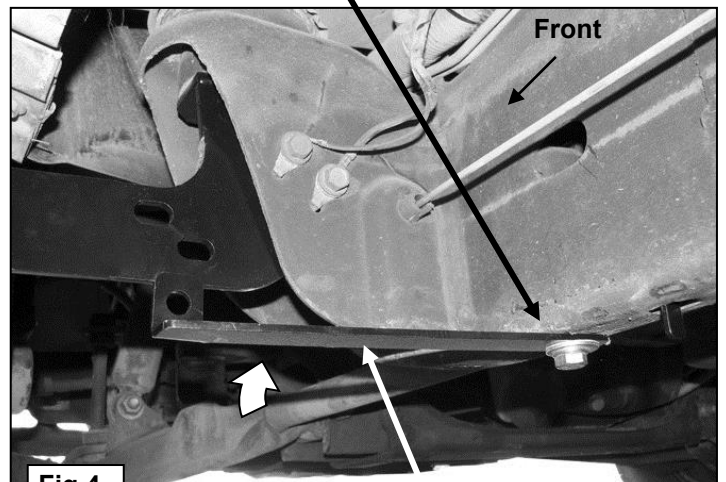

Fig 4
Note that the Front Support Bracket will not reach up to the Mounting Bracket, **(Figures 3 & 4)**. Tighten the Support Bracket to the Nut Plate in the frame. Carefully push up on the Support Bracket until it reaches the inside hole in the Mounting Bracket, **(Figure 4)**. Bolt the Support Bracket to the hole in the Mounting Bracket with (1) 10mm x 30mm Hex Bolt, (2) 10mm Flat Washers, (1) 10mm Lock Washer and (1) 10mm Hex Nut. Do not tighten at this time.